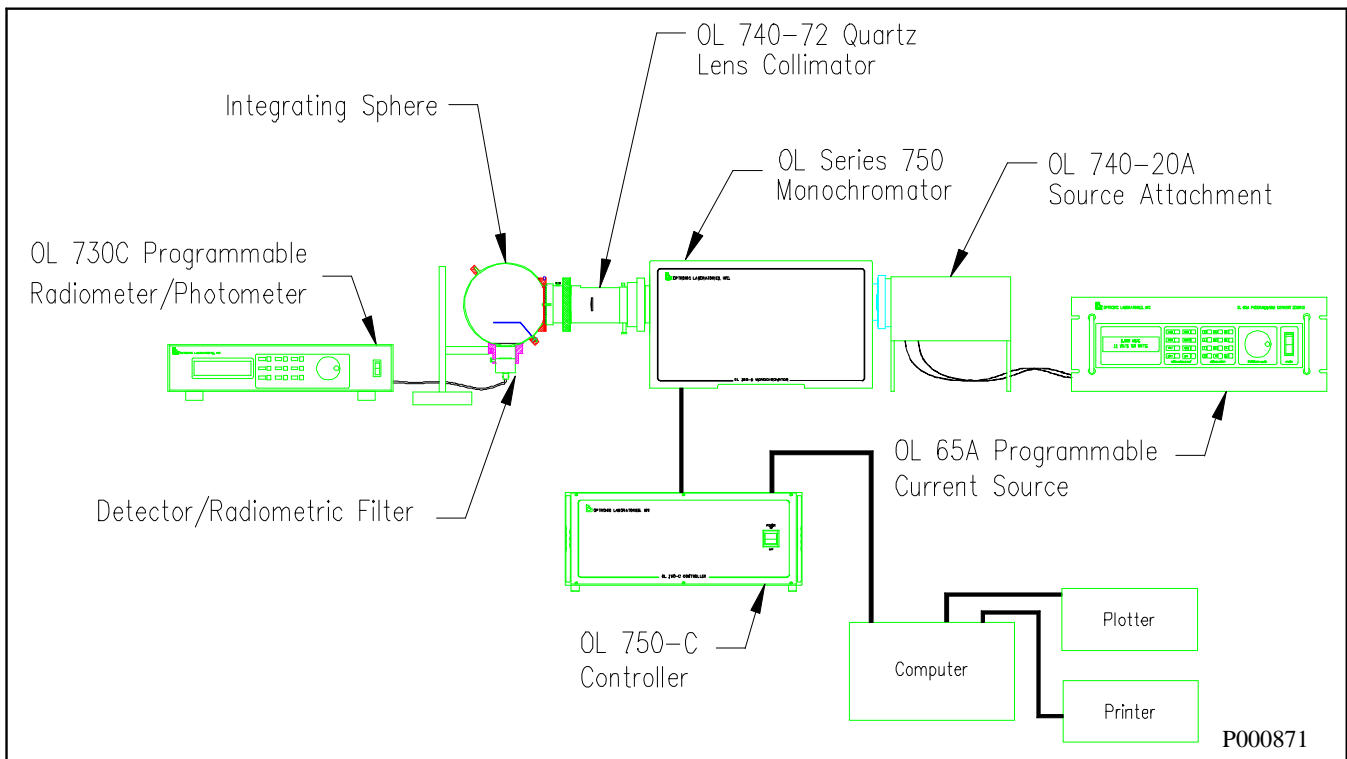

Figure 6 - Setup for Determining Total Radiant Flux Response Calibration Factor
2) With the OL IS-670 positioned such that the entrance port is centered in the collimated beam and the OL 730-5A or OL 730-5H Detector with OL 730-5-RF Radiometric Filter inserted in the sphere exit port, record the detector signal, S_k [A]. This configuration is illustrated in Figure 6.